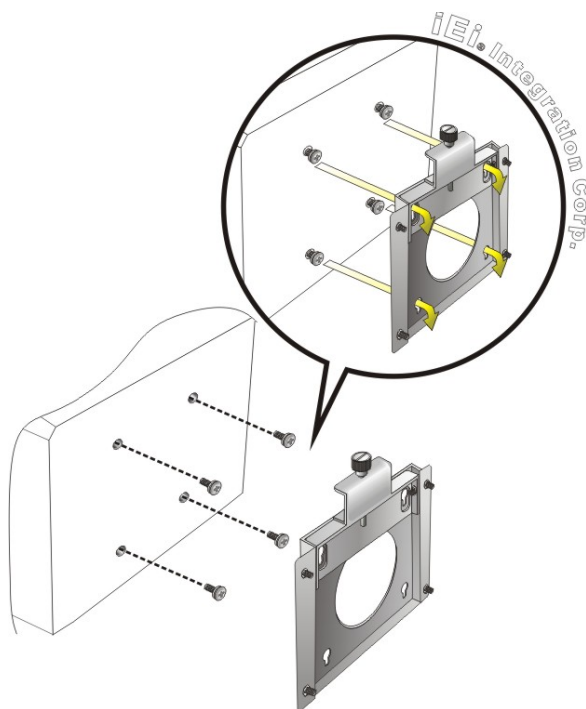

Figure 3-25: Chassis Support Screws
Step 6: Insert the four monitor mounting screws provided in the wall mount kit into the four screw holes on the rear panel of the flat bezel panel PC and tighten until the screw shank is secured against the rear panel (**Figure 3-25**).
Step 8: Carefully insert the screws through the holes and gently pull the monitor downwards until the monitor rests securely in the slotted holes (**Figure 3-25**). Ensure that all four of the mounting screws fit snugly into their respective slotted holes.